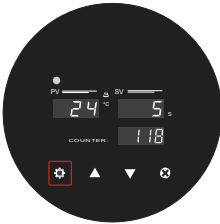

Fig. 3
3. Press Set  button again (Fig. 3) to go into the timer setting mode.